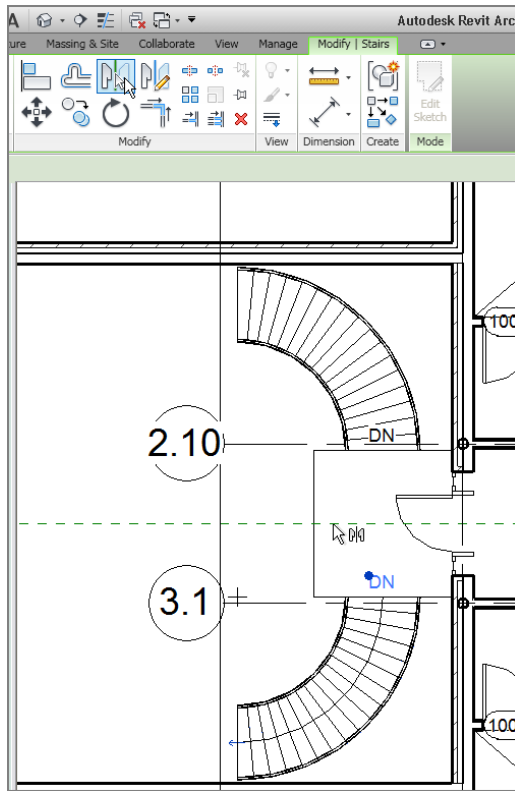

FIGURE 10.48: The mirrored stairs
3. On the Modify | Multi-Select tab, click the Mirror > Pick Mirror Axis button, as shown in Figure 10.48.
Your stairs are now mirrored to the other side of the landing (see Figure 10.48).